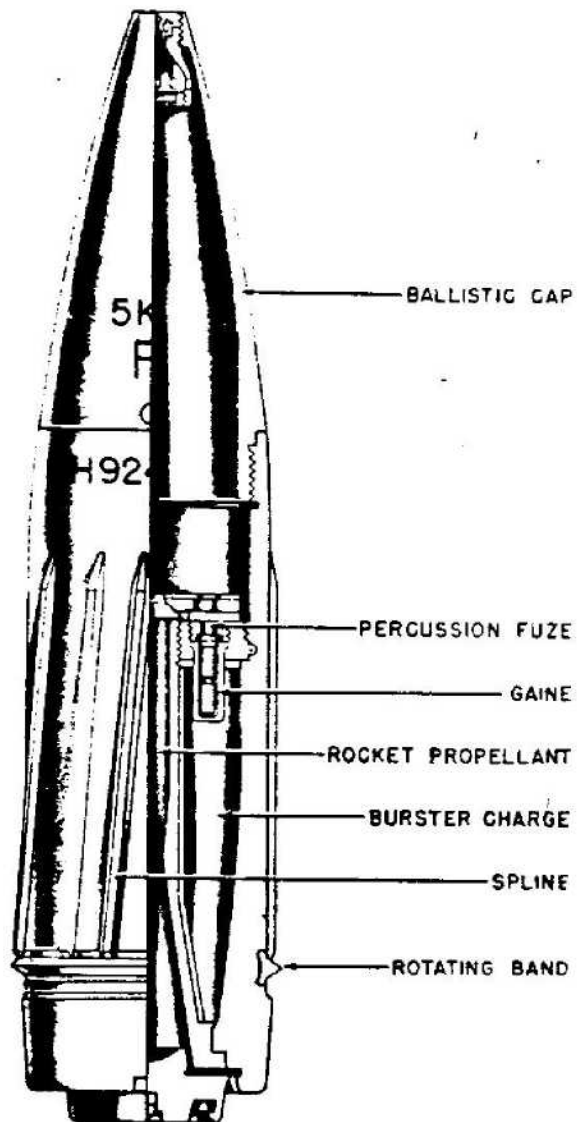

Figure 537—H. E. Rocket Assisted Projectile for 280-mm R. R. Gun, 28-cm R. Gr. 4331
**GERMAN NOMENCLATURE:** 28-cm R. Gr. 4331. (See fig. 537.)
**WEAPONS:** German Railway Gun: K. 5 (E).